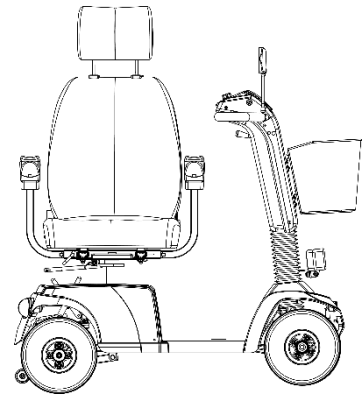

Figure 5.3
5.9.1 Lift up the swivel lever completely to rotate the seat up to 90 degrees to either side. (See Figure 5.3)